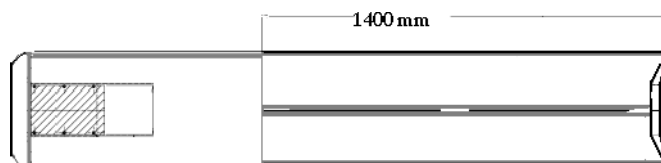

Figure 1-31 Place level along the length of the cradle
- 5.) Place the level in the center of the cradle and check that it is level (see Figure 1-31). The width and the length of the cradle must be level when finished. Re-tighten all adjuster lock rings.